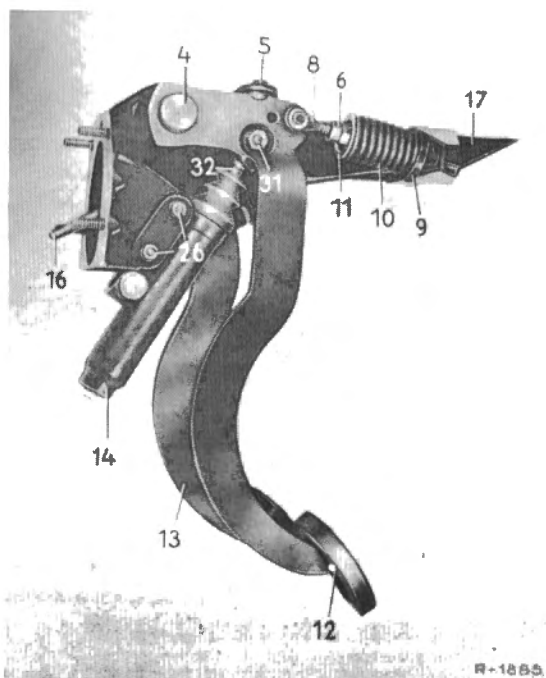

Fig. 29-2/5
1. Unscrew the supply cylinder (14) from the pedal support (17) (Figs. 29-2/3 and 2/4 and Job No. 29-3).
2. Unscrew the hexagon nut from the adjusting screw (31) and remove the ad-
justing screw together with the piston rod (32) from the clutch pedal (12) (Figs. 29-2/3 and 2/4).
3. Completely back out the hexagon nuts (6) and depress the clutch pedal to release the pressure spring (10) (dead center spring) (Fig. 29-2/3).